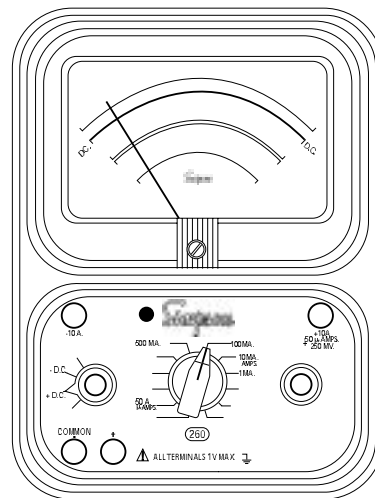

Figure 4-12. Jacks and Switch Positions for Measuring Direct Current
- a. Set the function switch at +DC (Figure 4-12).